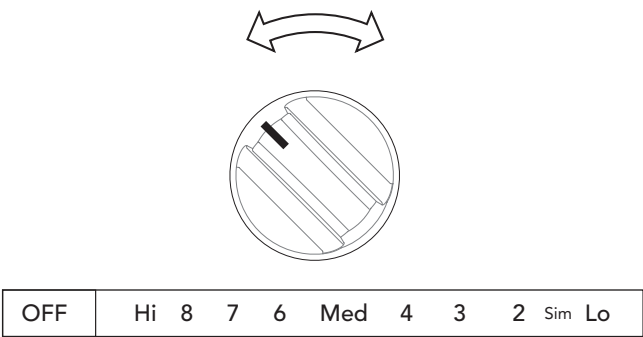

Figure 6: Control knob shown is typical only
2. Push in and turn the surface control knob in either direction to the desired setting (Figure 6). Start most cooking operations on a higher setting and then turn to a lower setting to finish cooking. Each surface element provides a constant amount of heat at each setting. A glowing red surface heating area extending beyond the bottom edge of the cookware indicates the cookware is too small for the surface heating area.